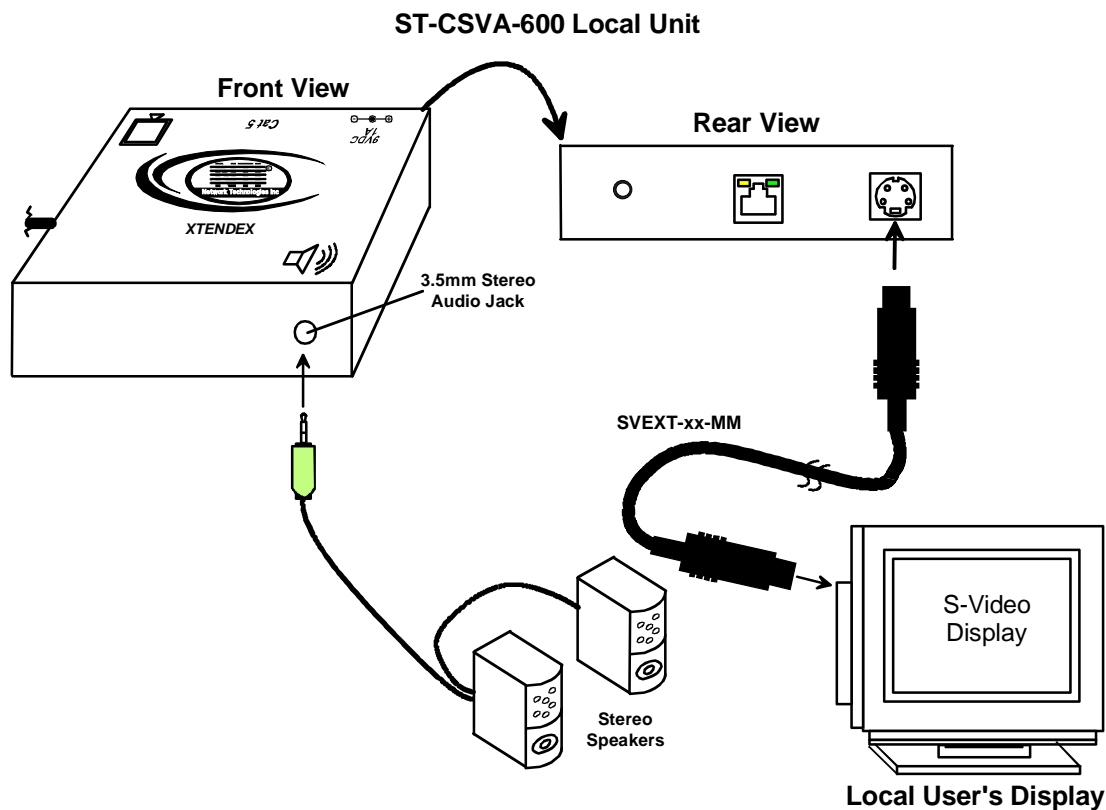

Figure 6- Connect S-Video display and speakers to Local Unit with s-video support
2. Make connections for a Local User (see Fig. 6)